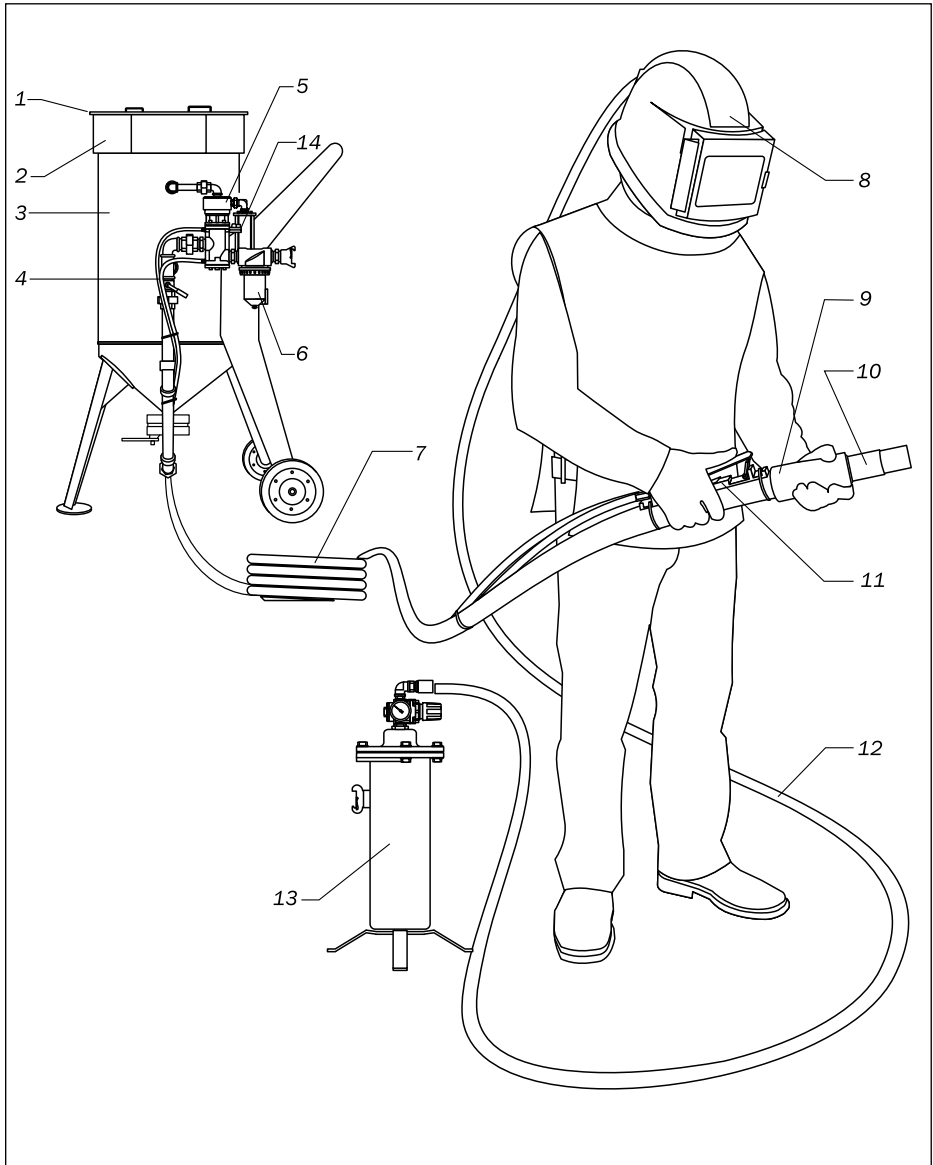

Fig. 2.1.
◀ Fig. 2.1.
10. Open the safety ball valve 14 (Fig.2.1).
DURING A BREAK IN OPERATION ALWAYS OPEN SAFETY BALL VALVE 14 (Fig. 2.1) AT RC VALVE, OVER AGAINST THE BLUE LINE OF TWIN HOSE (TWINLINE). RC HANDLE LEVER SHOULD BE NEVER FIXED IN OPERATION POSITION. SUCH FIXING MAY CAUSE A SERIOUS INJURE.